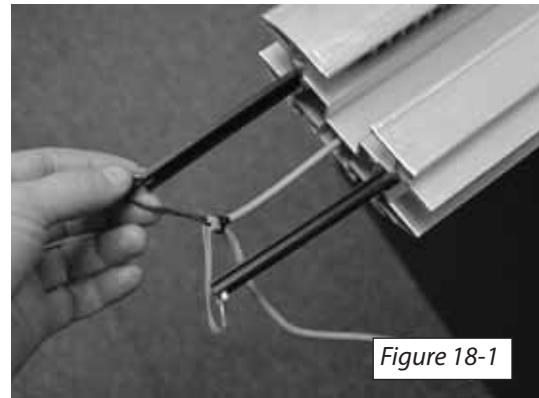

Figure 18-1
1. Carefully re-insert the charging strips back into the rail. [Figure 18-1]